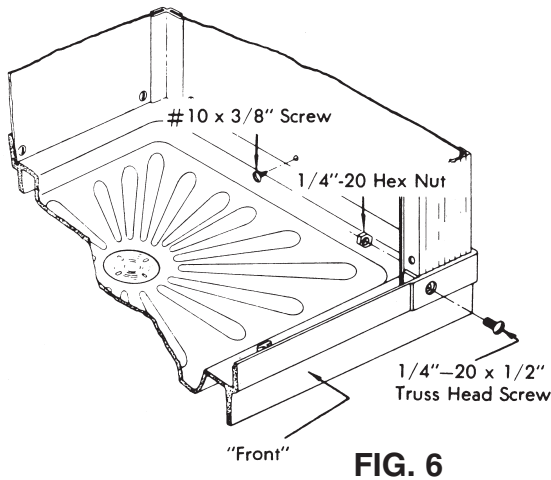

FIG. 6
6. From the outside, insert a **1/4"-20 x 1/2" Truss Head Screw** in the **Base** and through the pre-punched hole in the **Front Support**. Secure with a **1/4" x 20 Hex Nut** on the inside. Repeat for the remaining **Front Support**. Insert a **#10 x 3/8" Truss Head Tapping Screw** into the pre-punched center hole of the back panel (this will align the panel to the base.) Follow the same procedure for both side panels. Tighten all three center screws, then start the remaining six screws. After all screws are started, tighten securely. (FIG. 6)